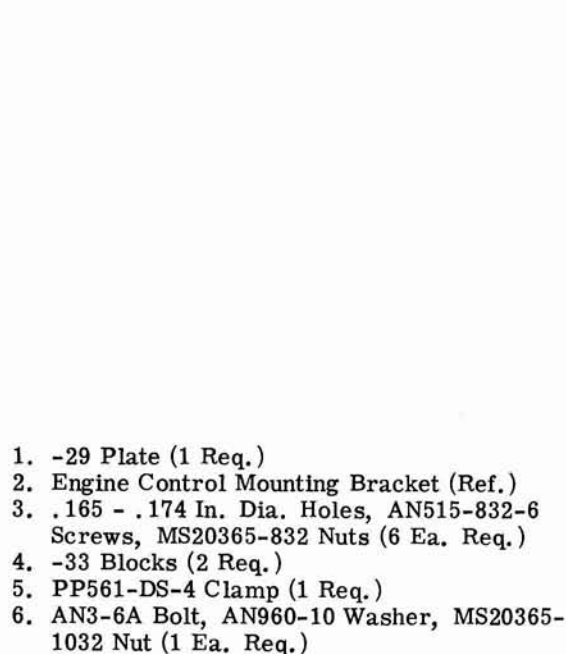

Figure 2
2. Position a 169-910002-29 plate (shown in Figure 2) over the outside edges of the engine control mounting bracket by aligning the .193 - .201 inch diameter hole in the plate with the corresponding hole in the bracket.
4. Position the -29 plate within the bracket as shown in Figure 2 and secure the plate to the bracket with six AN515-832-6 screws and six MS20365-832 nuts.